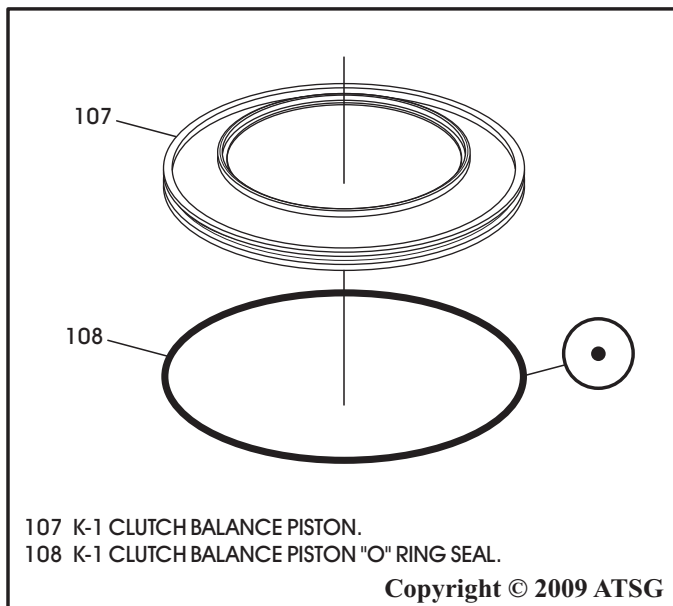

Figure 86
4. Install new "O" ring seal on the K-1 clutch balance piston, as shown in Figure 86, and lube with small amount of Trans-Jel®.